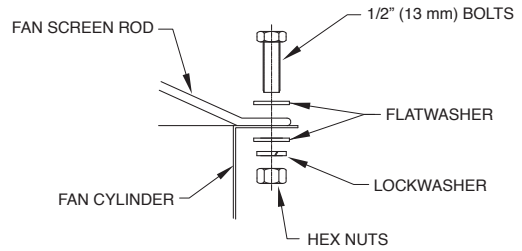

Figure 21 – Attaching Fan Screen to Cylinder
2. At each hole, attach the fan screen to the discharge cylinder as shown in Figure 21.
4. At each hole, attach the fan screen to the discharge cylinder as shown in Figure 21. At the four points where the support frame meets the cylinder, bolt the support frame to the cylinder together with the fan screen.